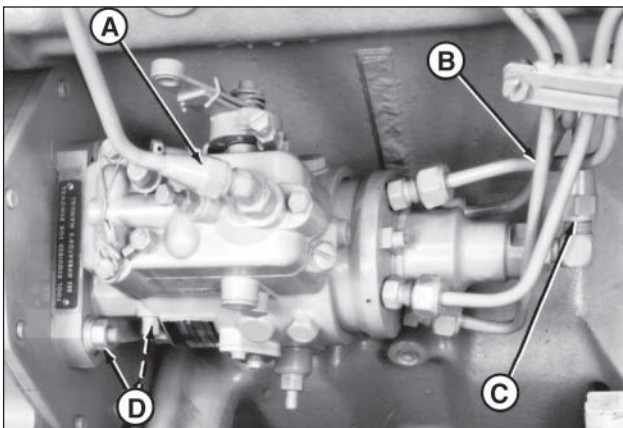

Figure 21 Reproduced by permission of Deere & Company, c.2005. Deere & Company. All rights reserved.
3. Disconnect fuel return line (Figure 21-A) and fuel supply line (Figure 21-C).
4. Disconnect all fuel delivery (pressure) lines (Figure 21-B) from injection pump using a suitable 17 mm deep-well crowsfoot socket.